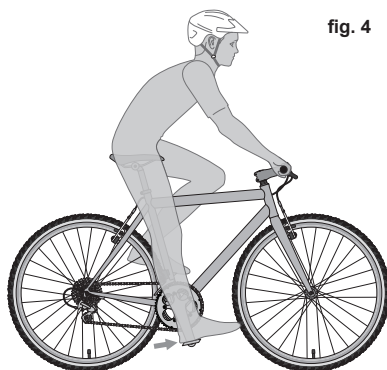

fig. 4
1. Up and down adjustment. To check for correct saddle height (**fig. 4**):